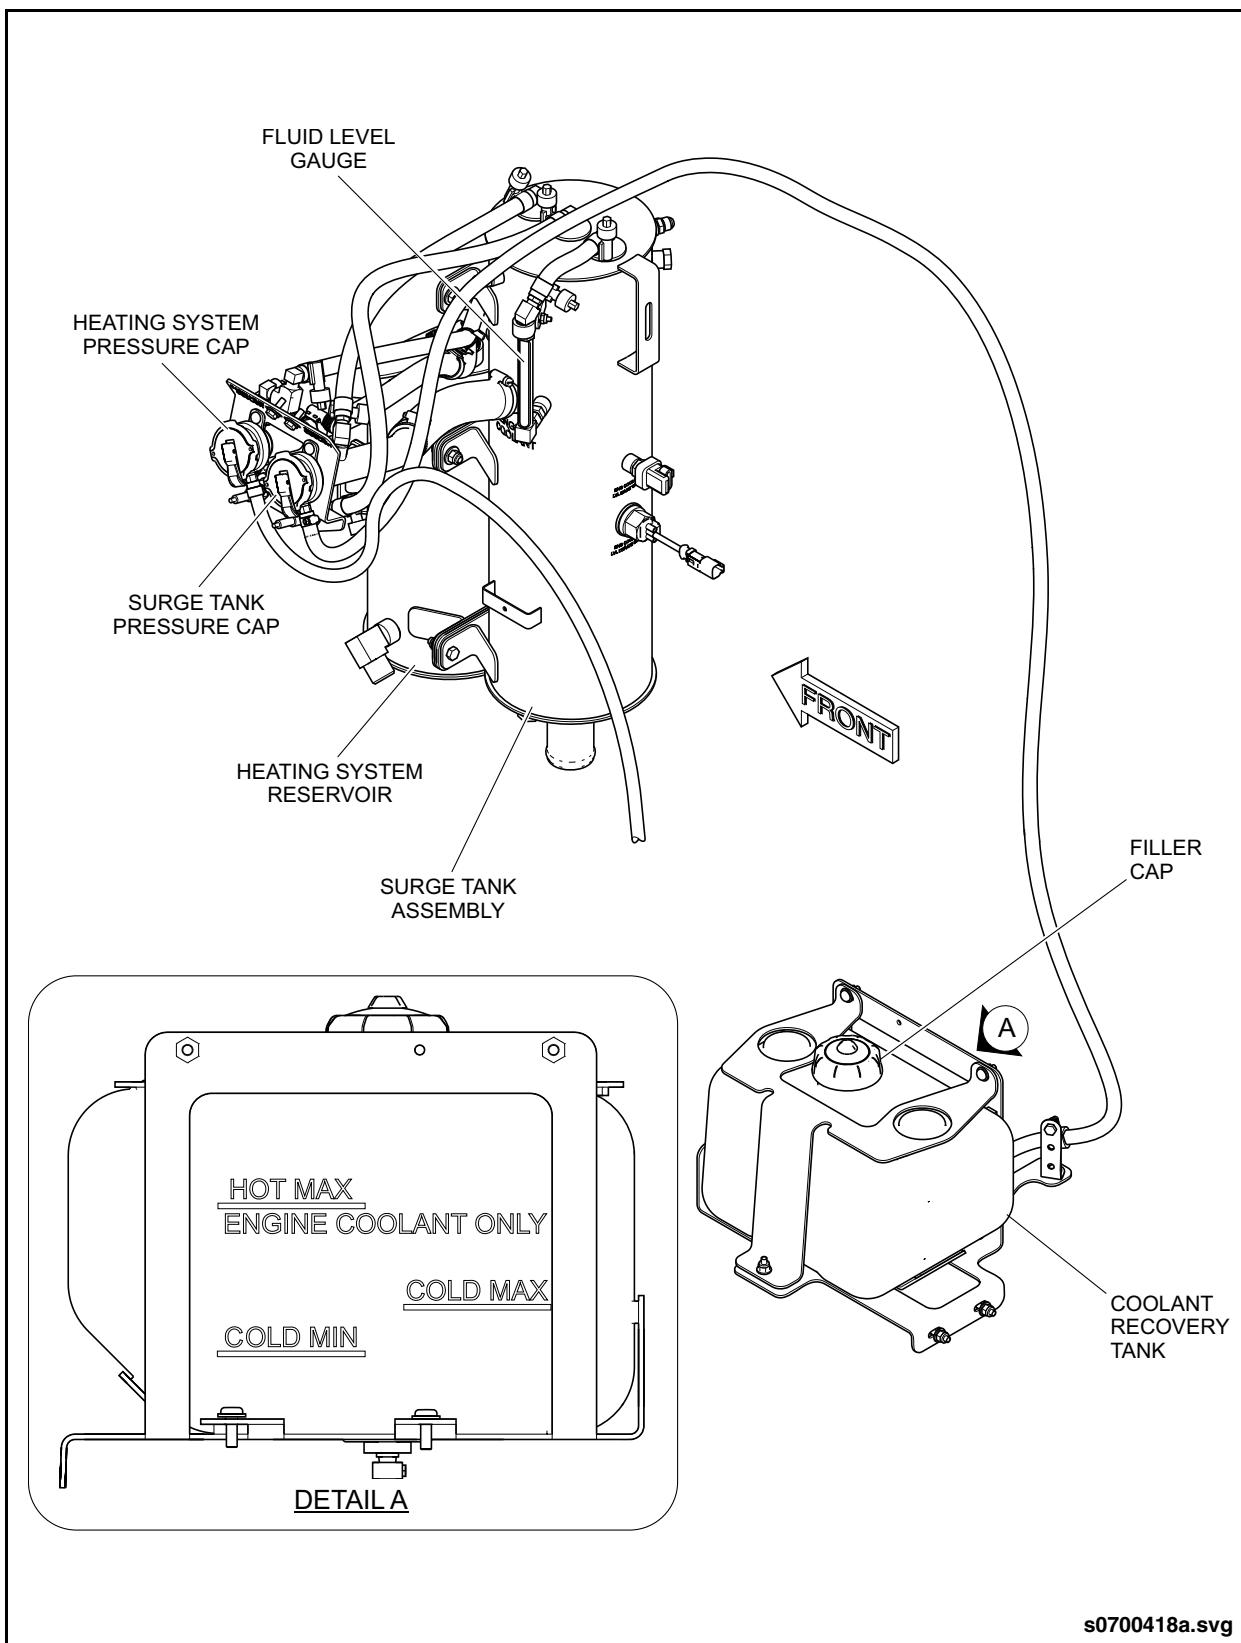

Fig. 6-2: Coolant System Fill Levels
14. Add coolant through the pressure-fill connector until coolant level is between the COLD MAX and HOT MAX markings on the coolant recovery tank. See "Fig. 6-2: Coolant System Fill Levels" on page 7.